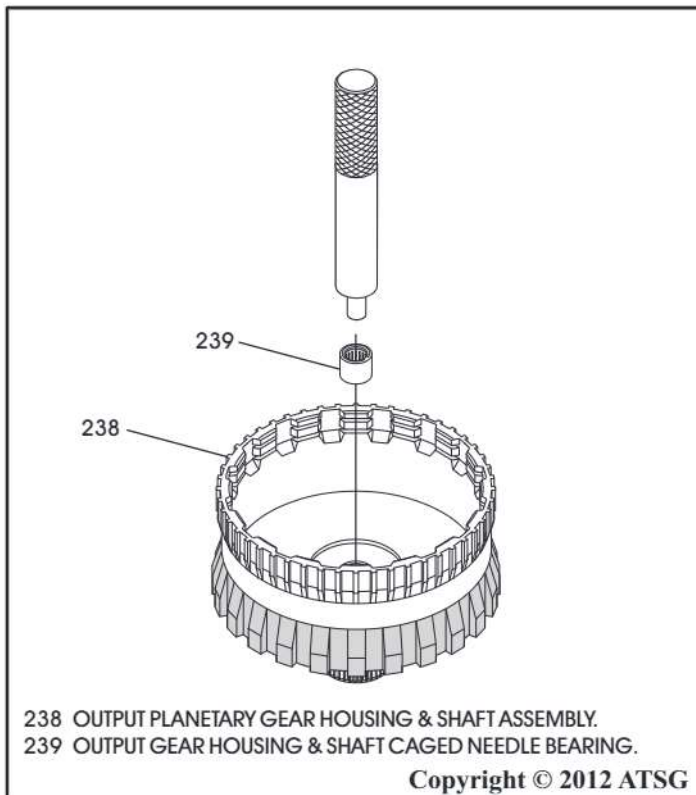

Figure 119
4. Install new caged needle bearing as necessary in output planetary gear housing using the proper driver, as shown in Figure 119.